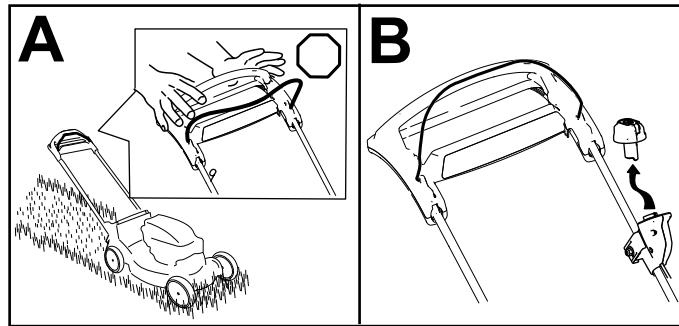

Figure 16
1. Release the blade-control bar (A of Figure 16).
2. Remove the electric-start button from the electric-start switch (B of Figure 16).